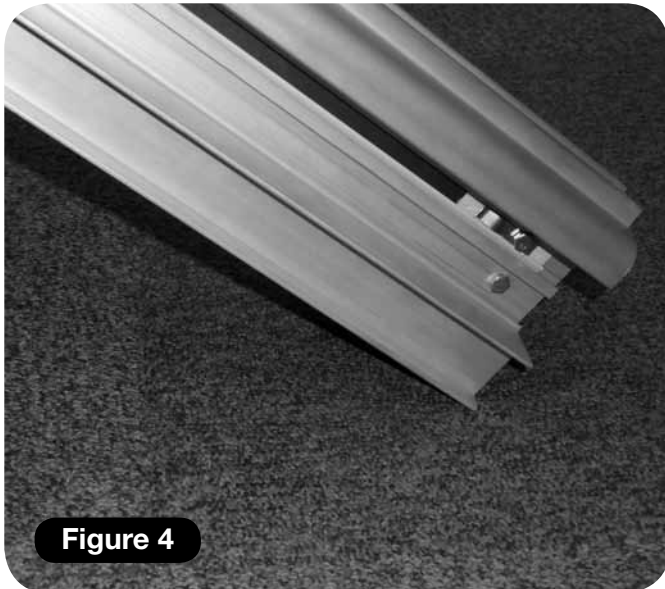

Figure 4
- a** Remove the charge spring contact (**Figure 4**).
8 Check that the charge strip has made proper contact with the spring contact at the bottom of the track (**Figure 4**).
- 7** If the track was not delivered pre-cut to the correct length, trim the communications busbar to the appropriate length to accommodate the top end cap (**Figures 4, 5 and 19**).